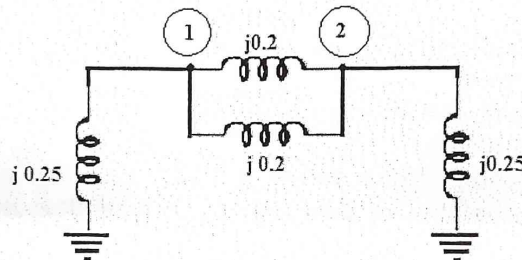

Figure 1
1. a) Define the terms and explain with example: CO1 (06)
b) Form the bus impedance matrix for the network shown in Figure 1 by Z-building algorithm CO1 (10)